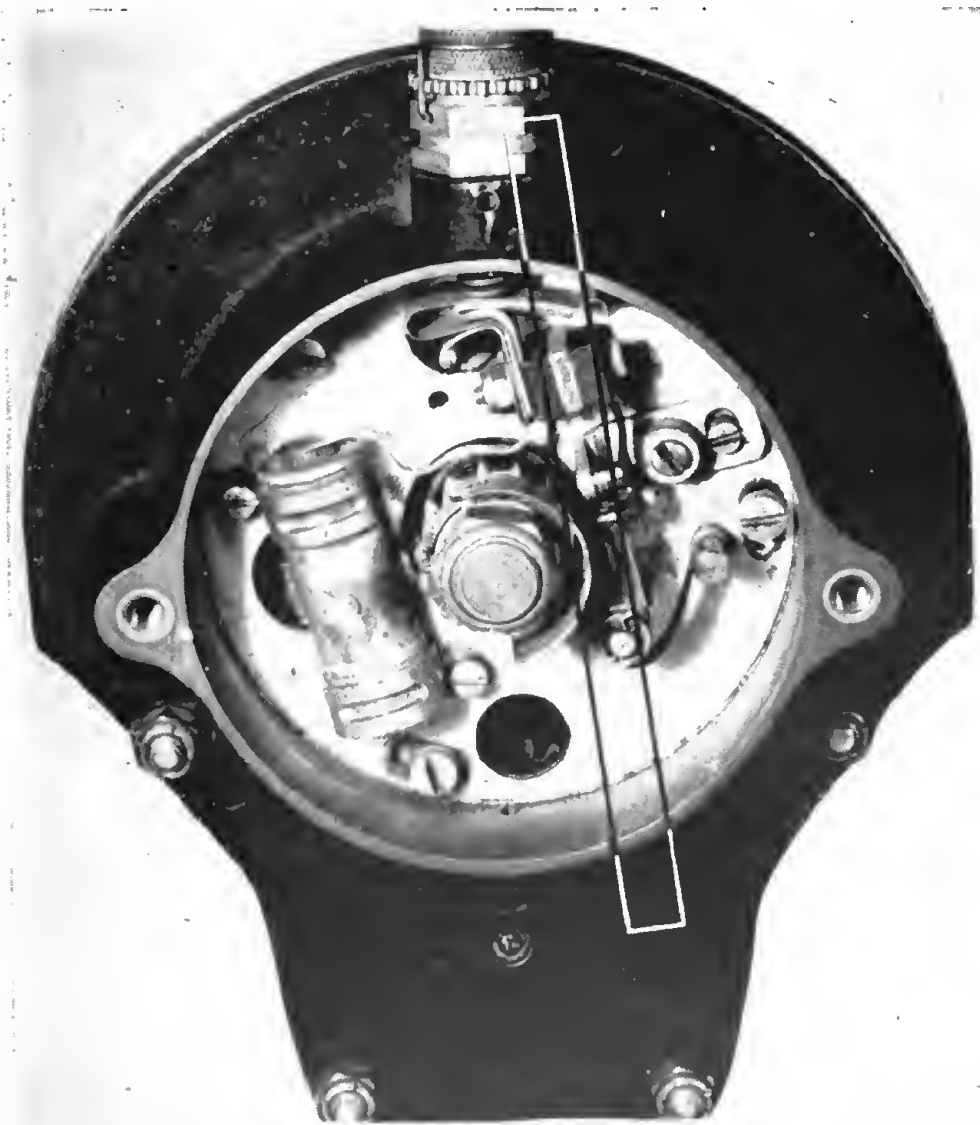

Figure 80. Use of a timing straight edge.
a. TIMING STRAIGHT EDGE. A timing straight edge is simply a thin piece of steel about 6 inches long, the edges of which are straight. It is used when timing a magneto. The rotor of the magneto is turned until the breaker points just separate. The straight edge is then used to check the alignment of two edges on the rotor with two marks on the housing. (See fig. 80.)